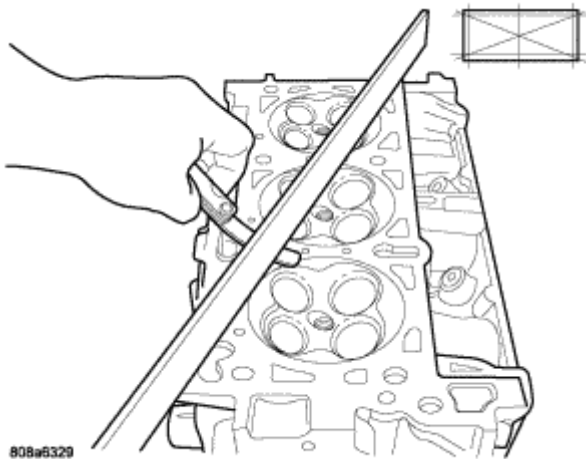

Fig. 72: Checking Cylinder Head For Flatness
3. Check cylinder head for flatness. See **Fig. 72**.